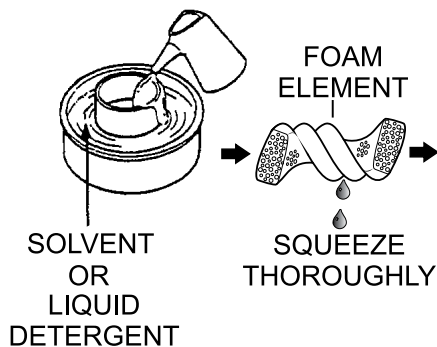

Figure 31. Cleaning Foam Element
8. Clean the foam air filter (Figure 31) element in warm soapy water, rinse and allow to dry thoroughly or clean with a nonflammable solvent and allow to dry. **DO NOT** pour any type of oil into the foam element.